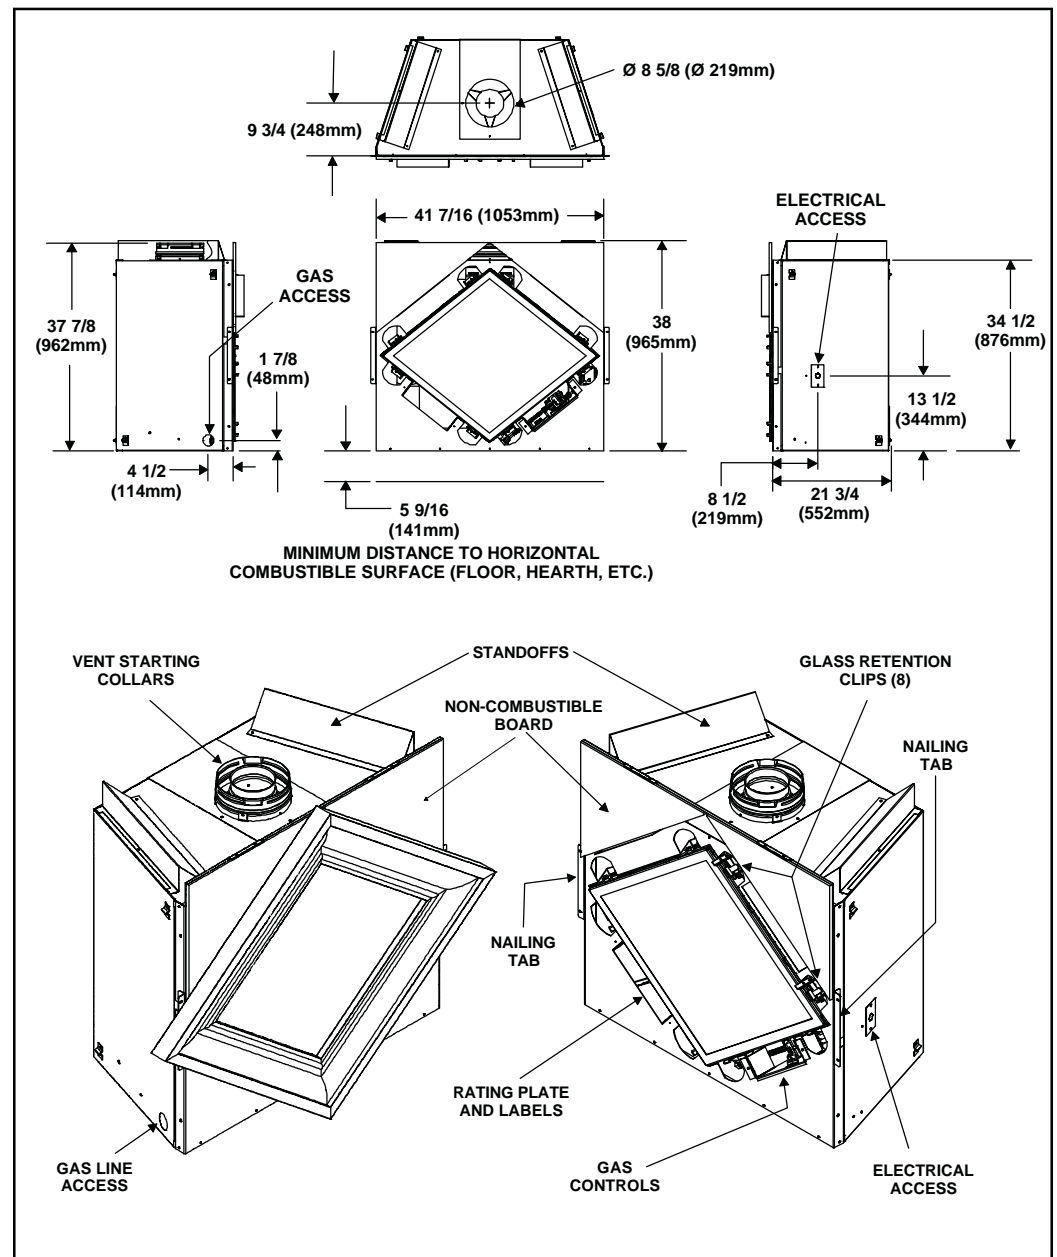

Figure 1. Diagram of the CFX-DIAMOND
**WARNING: THE CFX-DIAMOND REQUIRES AN ELEVATED PLATFORM CONSTRUCTION TO ACCOMMODATE THE DIAMOND SHAPED SURROUND WHICH IS LARGER THAN THE FIREPLACE (SEE FIGURE 1)**